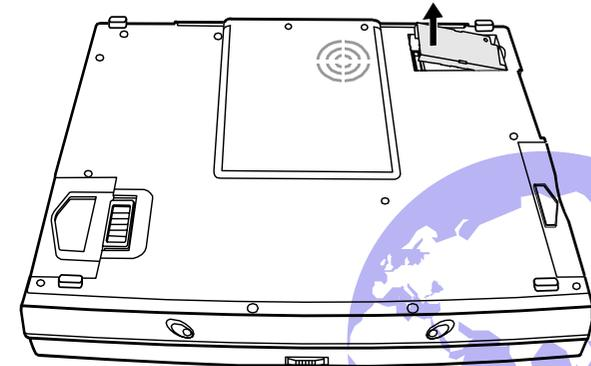

Figure 5-19. Removing the Modem/LAN Card
1. Hold the Modem/LAN card at an angle so that the phone line connector (or RJ-45 connector if installing a LAN card) is pointed towards the opening on the notebook. Insert the connector into the opening and press the other end to plug the Modem/LAN card into the socket on the system board. (Refer to Figure 5-19)